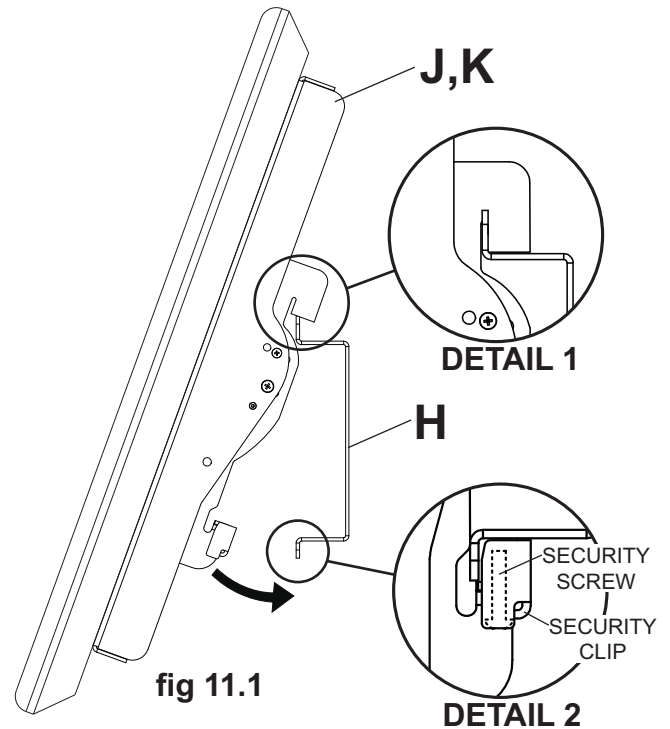

fig 11.1
Mounting Screen: Hook tilt brackets (J,K) onto adapter plate (H) and swing screen in as shown in fig. 11.1. **NOTE:** If the security clip does not clear the bottom of the adapter plate, loosen the security screw with allen wrench (L). Tilt bracket hooks must fully engage adapter plate as shown in detail 1. Tighten security screw using allen wrench (L) until security clip sits firmly against bottom of adapter plate.